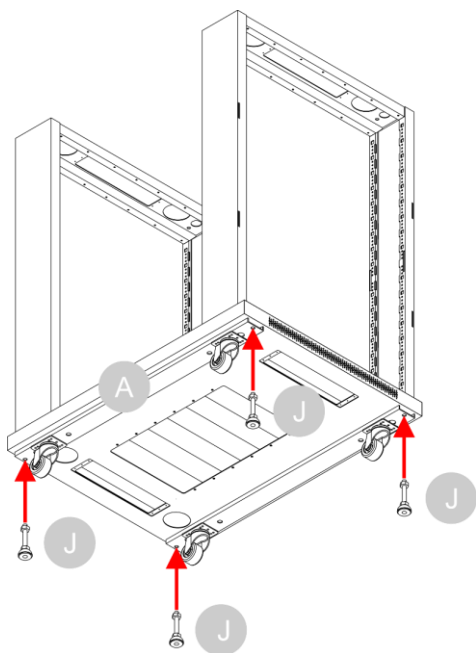

Fig. 23
- 06) Attach the **adjustable feet (J)** to the bottom of the **bottom plate (A)**, by turning them clockwise, as shown in Fig. 23.